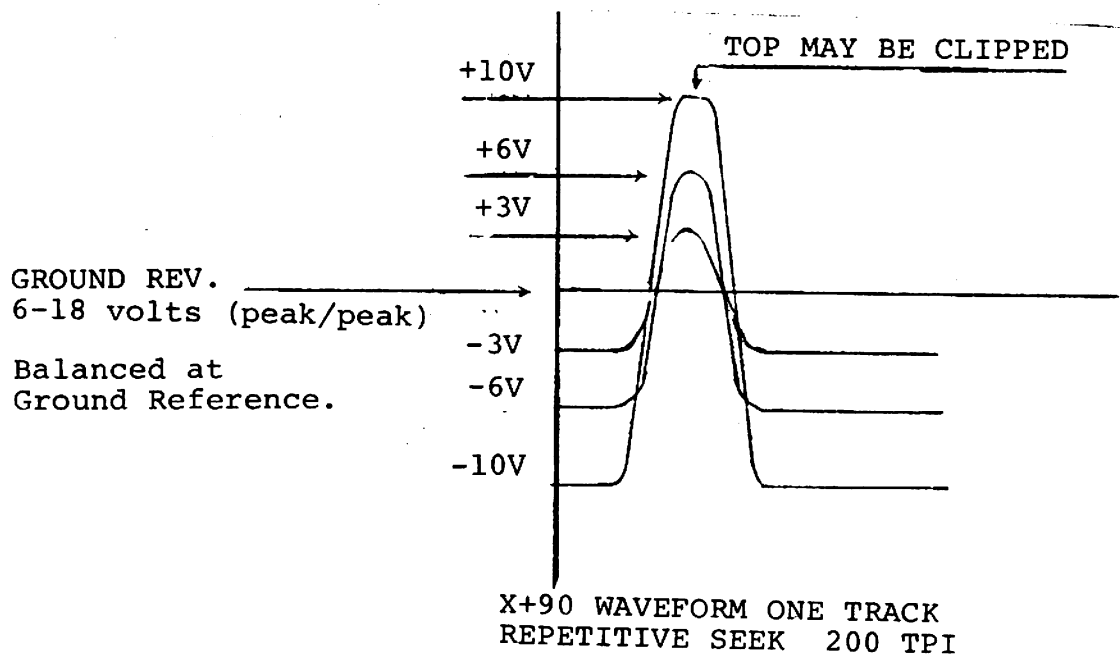

FIGURE 6-15 (b)
- (1) Select Channel 2. Adjust potentiometer R79 (X+90). Balance until the X+90 waveform at TP2 is balanced at ground.
- (2) Select Channel 1. Observe settling response of the X+0 waveform at TP20. If the response overshoots greater than + 2.0v about ground, readjustment of the reticule is required (6.9.6.4).
- (3) Select Channel 2. Establish that the X+90 waveform at TP2 has transistions balanced about ground reference as shown in Figure 6-15(b), adjust R79, if necessary.